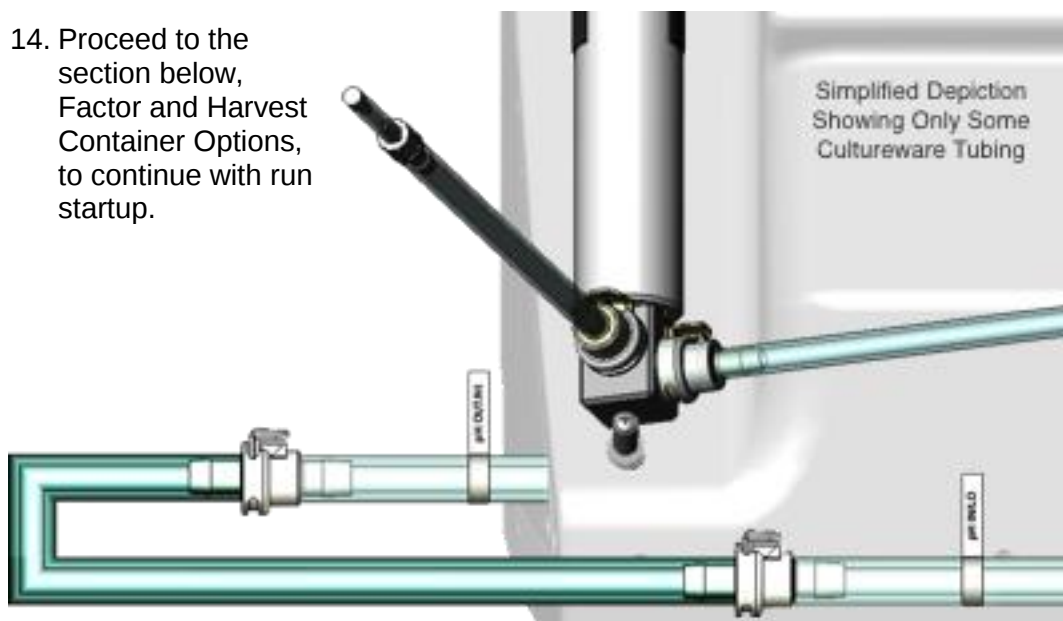

Figure 8-16: Cultureware's External Tubing: pH IN/LO and pH OUT/HI
5. The pH probe assembly will replace the cultureware's tubing adapter between its quick-coupler fittings labeled pH IN/LO and pH OUT/HI. This adapter is colored dark-green for clarity in figure 8-16. The pH IN/LO tubing emerges from the lower-right front edge of the cultureware enclosure. The pH OUT/HI tubing enters the lower-left-hand side of the cultureware enclosure.